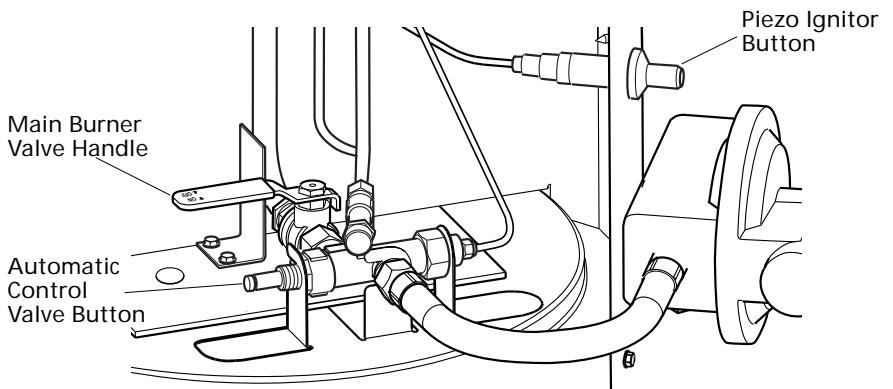

Figure 4 - Main Burner Valve Handle, Automatic Control Valve Button, and Piezo Ignitor Button Locations with Regulator Installed
4. Push in and hold automatic control valve button (see Figure 4). Push piezo ignitor button (see Figure 4). You may need to push the piezo ignitor button 3-8 times until the pilot lights.